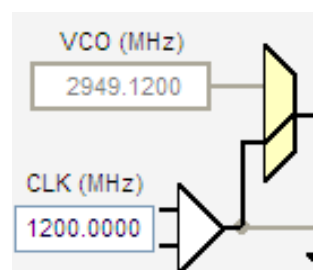

Figure 6. Buffer Symbol
5. Select the VCO as the input to the clock distribution circuitry by clicking the mux symbol that is located immediately to the right of the **VCO (MHz)** box (see Figure 6).